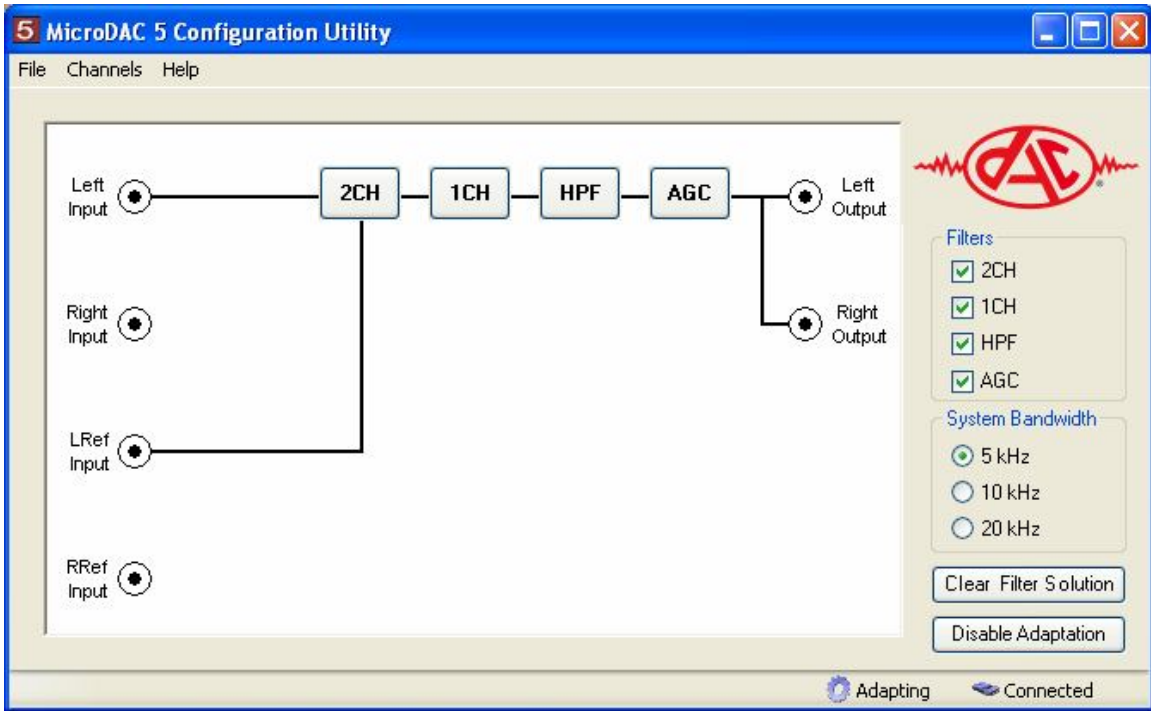

Figure 5-4: Mono 2CH with Reference on LRef Input
- 2CH with reference on LRef Input (see Figure 5-4)